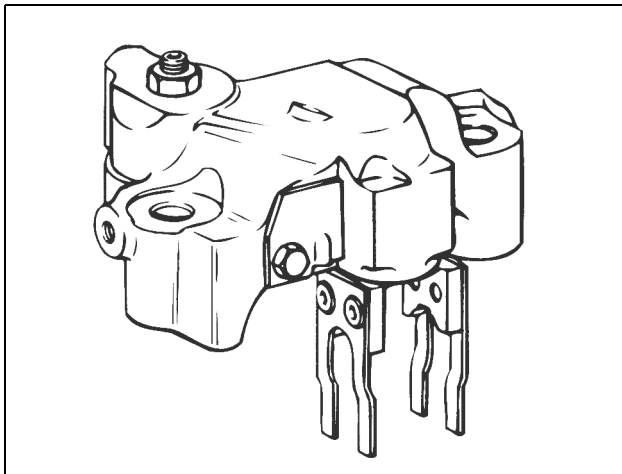

FIG. 1.6.2
- 53A (Fig. 1.6.2): Used on the following Detroit Diesel Engine Models: 3-53,4-53, 6V-53, 8V-53